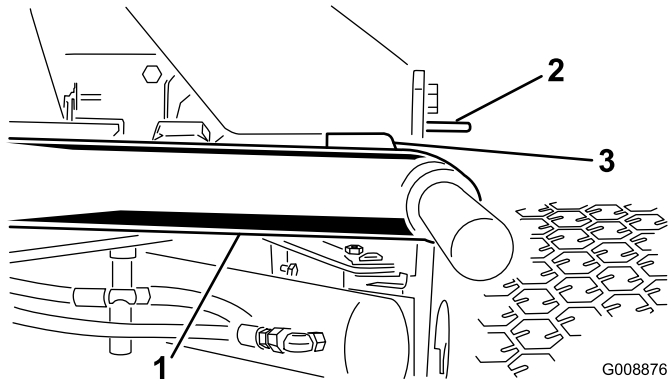

Figure 8
1. Start the engine, raise the cutting units, and check to ensure that the clearance between each lift arm and the floor plate bracket is 0.18 to 0.32 inches (5 to 8 mm) (Figure 8).